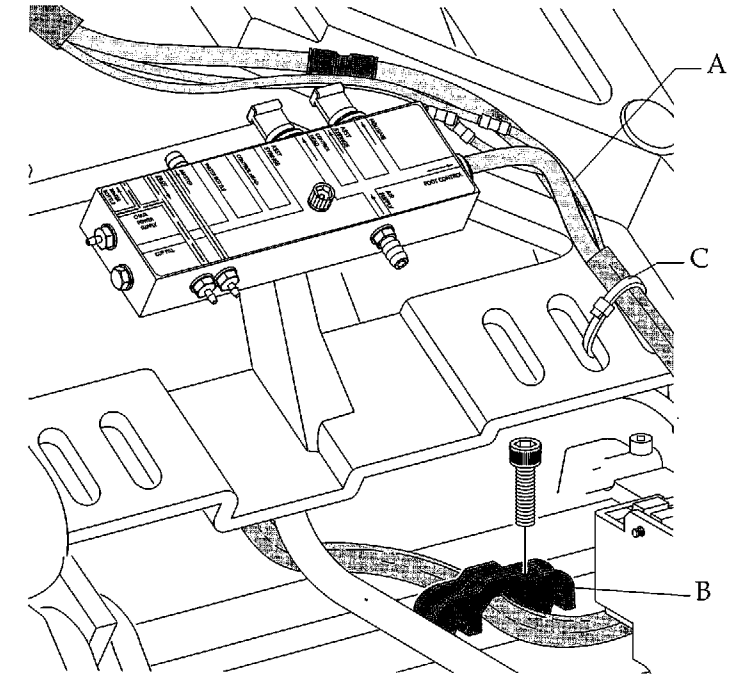

Figure 34. Routing the foot control tubing on the motor pump side. (A) foot control tubing; (B) strain relief bracket; (C) cable tie
1. Route the the foot control tubing underneath the chair lift arm towards the motor pump side (see Figure 34).
2. Connect the foot control tubing to the delivery system tubing and the manifold (see Figure 34).